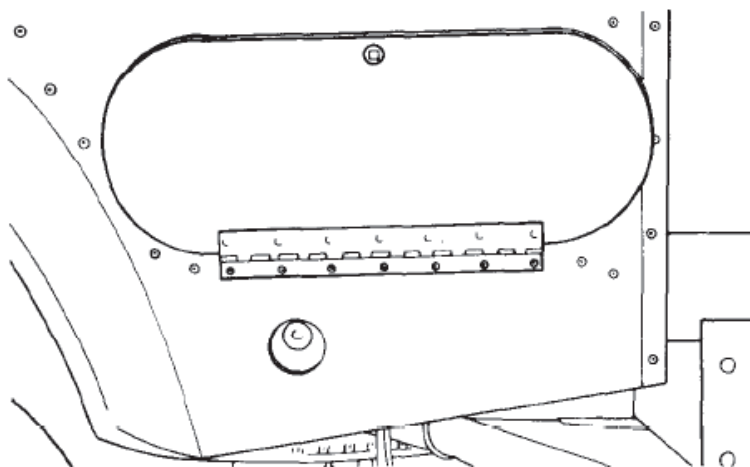

Figure 3 Tool Box and Wheel Arch Trim – Left Side
8. **Toolbox.** A toolbox (Figure 3) is incorporated on each side of the rear body and located to the rear of the wheel arch. Each tool box is equipped with a hinged lockable lid providing storage for the hydraulic jack and the vehicle's tool kit. A wheel arch trim is positioned over each wheel arch and secured to the side panels by plastic rivets.